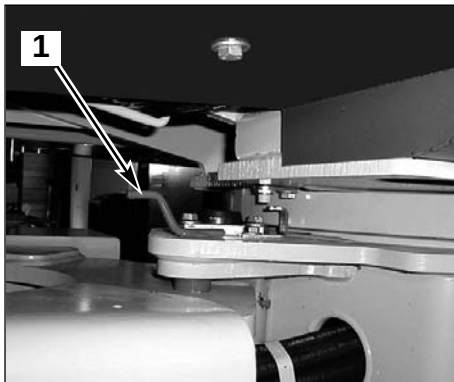

Fig. 1
- Lock the chassis (1 fig. 1).
- Lock the chassis sections using the links (1 fig. 1).